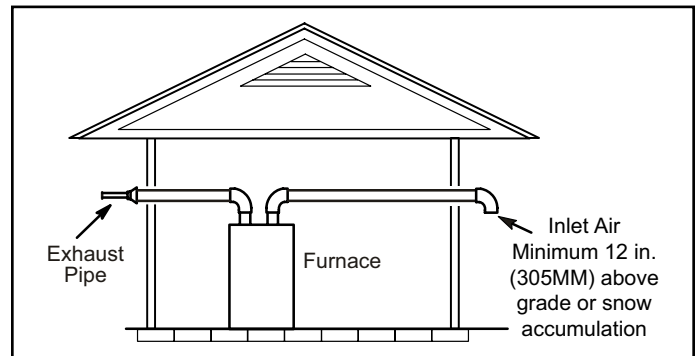
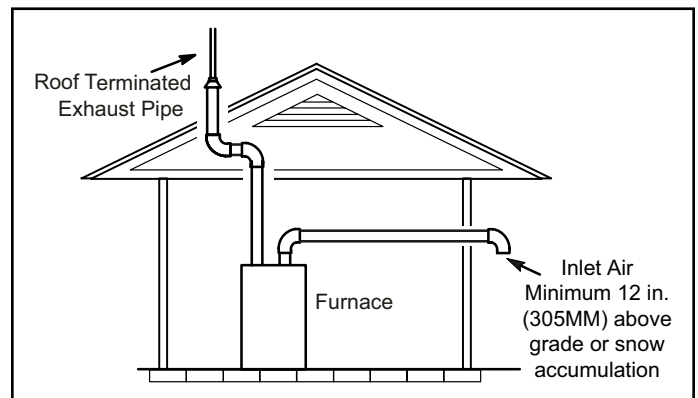

Figure 31. Exiting Exhaust and Intake Vent (no common pressure zone)
Figure 32. Exiting Exhaust and Intake Vent (no common pressure zone)
1. Vent terminations are not required to be in the same pressure zone. You may exit the intake on one side of the structure and the exhaust on another side (Figure 31). You may exit the exhaust out the roof and the intake out the side of the structure (Figure 32).